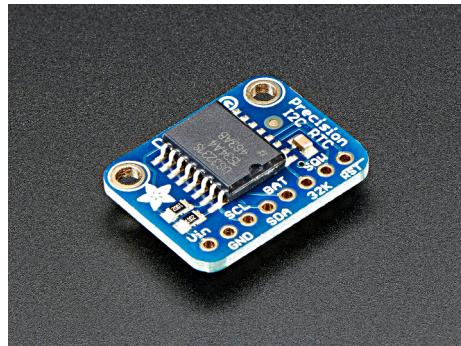

Figure 42: The DS 3231 hardware clock from Adafruit. Photo taken from [www.adafruit.com](http://www.adafruit.com).
- A DS 3231 precision hardware clock from Adafruit; this is a battery powered clock featuring temperature compensation. Fig. 42 shows this component which is about 15 €. A CR1210 battery is also needed.